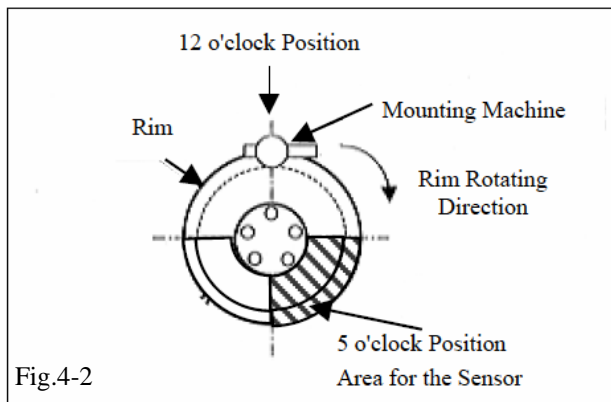

Fig.4-2
- (e) Reposition the wheel on the mounting machine with the sensor at ~5 o'clock position (shaded area in Fig. 4-2)